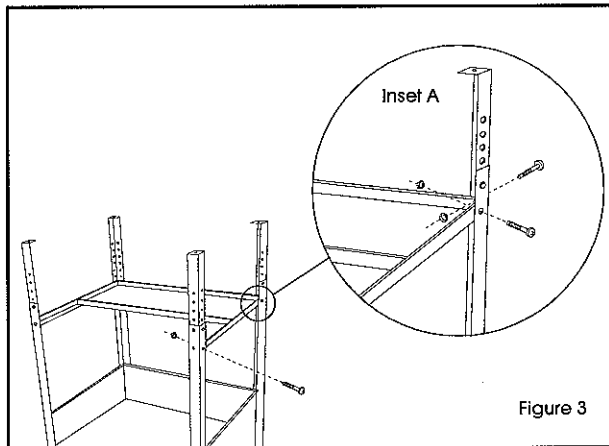

Figure 3
4. Attach bottom shelf to legs. Bolt shelf to legs using 6 large bolts and 6 large nuts. (See Figure 3)
NOTE: Insert bolts through legs, adjustable feet, and shelf. (See Figure 3, Inset A)